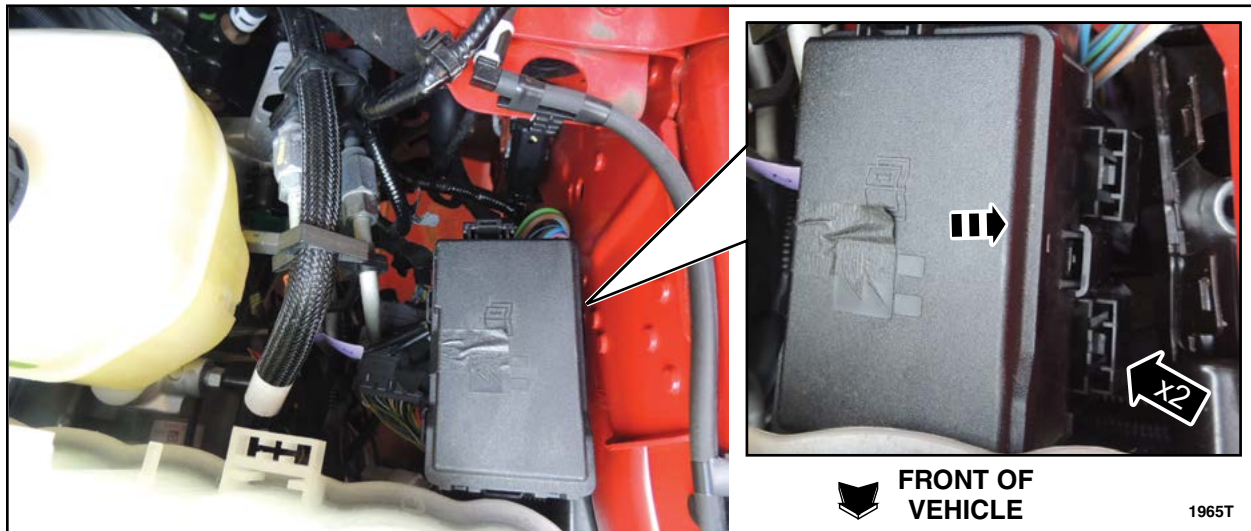

FIGURE 21
16. Position back the LH side fuse box. See Figure 21.